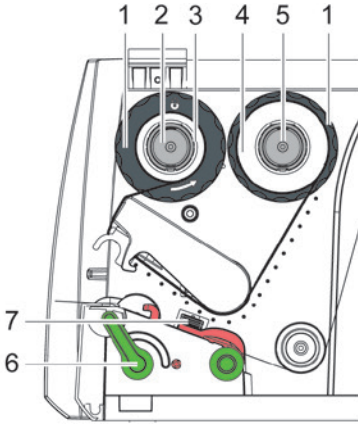

Fig. 12 Transfer Ribbon Feed Path
5. Adjust position of the guide on the take-up hub to the width of the ribbon core (3) and push ribbon core on the take-up hub.
6. Guide transfer ribbon through the printing unit as shown in Fig. 12.